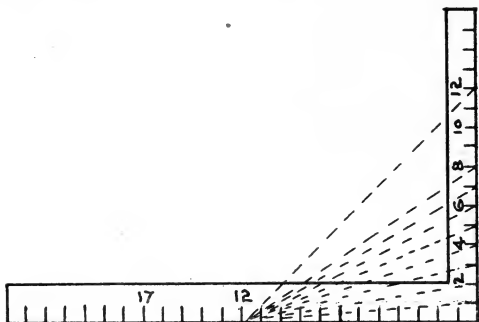
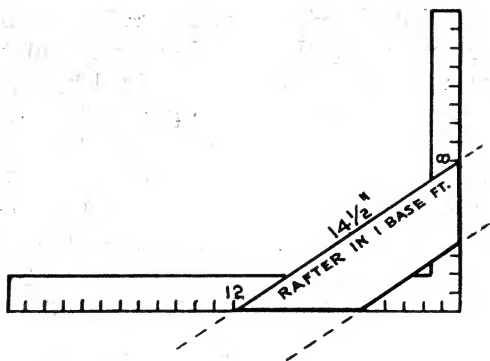

FIG. 15
FIG. 29
pitch of roof, angle of brace and various cuts, as the rise. (See fig. 15.)
used on the square at right angle to the base. Every inch or fractional inch rise to one base foot gives a different pitch of roof, angle or cut. (See Figs. 15 and 17.)
The Hypotenuse is the angular line from the base to the rise and is the pitch of roof and length of rafter in one base foot which is obtained by raising the Rise to the desired pitch or angle (see fig. 15). It is used with the base instead of the rise for the angular or face cut for Jack, Cripple, Hip and Valley rafters that meet the ridge, Hip and Valley rafters, which will be explained.
It is important to understand the use of the square. The base, rise and hypotenuse of the square used in the different methods herein given solve the practical use of the square. Every inch to 8" rise, with 12" base, gives 8 different cuts on either of the three lines, and 8 different pitches of roof. It also gives eight cuts for braces, brackets, bridging and truss framing. In roof framing, the hypotenuse is the pitch of the roof and the length of the rafter in one base foot. (See fig. 29.) Any cut in framing
The length of a common rafter in one base foot is equal to the hypotenuse of the base and rise and can be obtained by measuring from the base to the given rise. (See fig. 29.) This is true with 12" base and any number of inches rise. (See fig. 15.)
32.) Mark on the base for the plate cut and on the rise for the ridge out. (See figs. 29, 30 and 32.) Where there is a ridge board used shorten the rafter half the thickness of the ridge. For an extension of the rafter over the plate for eave, and two or more inches left on the rafter for support, measure down perpendicularly from the spacing for the plate mark to the bottom of the rafter. Draw a line parallel with the rafter, 2" from the top edge. Set the